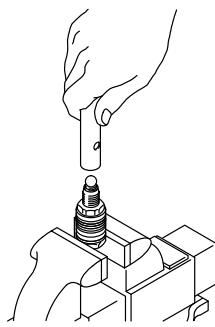

Fig. 26
- While maintaining the alignment, thread the piston valve assembly into the piston rod just until the piston valve nut contacts the rod. See Fig. 26.